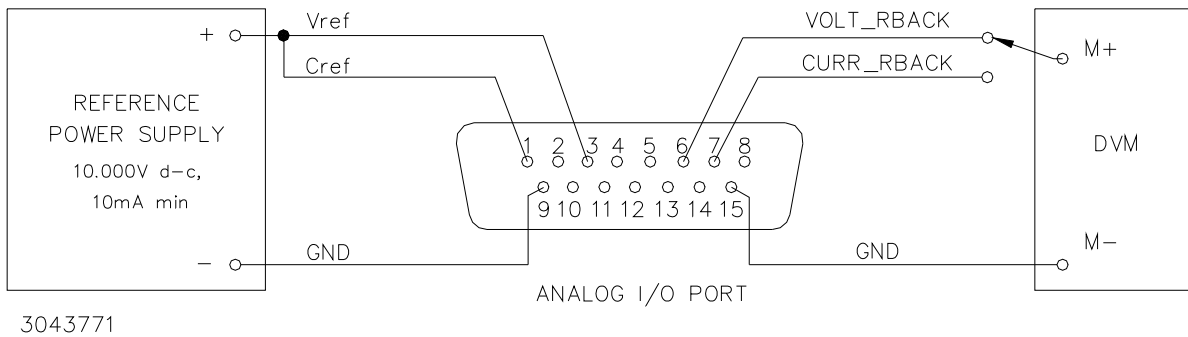

FIGURE 4-1. ANALOG PORT WIRING FOR CALIBRATION
5. Configure the mating I/O connector (provided with unit) to access the input programming signals (Vref and Cref) and output readback signals (VOLT_RBACK and CURR_RBACK) as shown in Figure 4-1. Note that the wires to Vref and Cref should be tightly twisted with the corresponding GND wire and kept as short as possible. Then connect the I/O mating connector to the Analog I/O port of the power supply.
- Tap the **DC OUTPUT** switch to accept the value; the status display now reads **OUTV**. At the ANALOG I/O PORT J2, connect the DVM to VOLT_RBACK and GND as shown in Figure 4-1. Rotate the **VOLTAGE** control to increase or decrease the output voltage until the DVM reads as close as possible to 10V.
5. Tap the **DC OUTPUT** switch to accept the value; the status display now reads **OUTC**. At the ANALOG I/O PORT J2, connect the DVM to CURR_RBACK and GND as shown in Figure 4-1. Rotate the **CURRENT** control to increase or decrease the output voltage until the DVM reads as close as possible to 10V.
9. If password is correct, the status display on the VXI main panel reads CAL and the buttons on Calibration Screen (Figure 4-1) are enabled (highlighted). If the password is incorrect, the password text box displays "WRONG #". Repeat step 7 to enter the correct password, or click the **Calibrate Close** button on the VXI main panel to exit calibration.
3. Click the **Press to ACCEPT** button to accept the value; the status display now reads **OUTV**. At the ANALOG I/O PORT J2, connect the DVM to VOLT_RBACK and GND as shown in Figure 4-1. Click the “+” button to increase and the “-” button to decrease the output voltage until the DVM reads as close as possible to 10V.
5. Click the **Press to ACCEPT** button to accept the value; the status display now reads **OUTC**. At the ANALOG I/O PORT J2, connect the DVM to CURR_RBACK and GND as shown in Figure 4-1. Click the “+” button to increase and the “–” to decrease the output current until the DVM reads as close as possible to 10V.